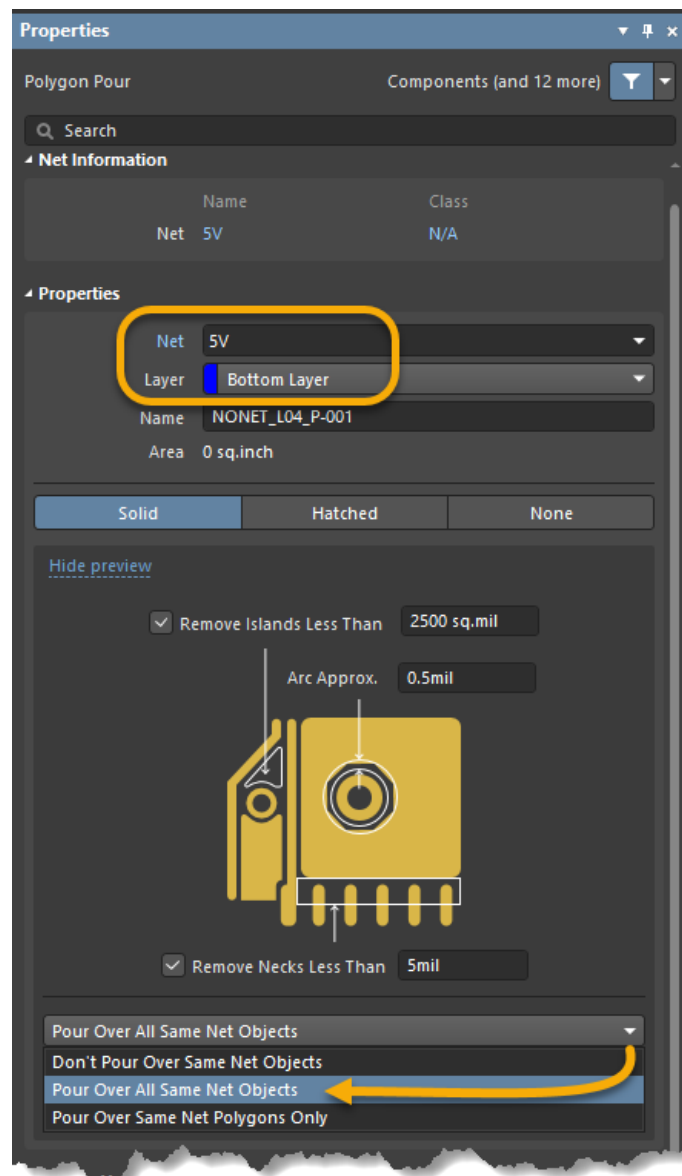

Figure 4. Polygon Pour dialog
19. Press the **Tab** key to pause the command and open the *Properties* panel to access the *Polygon Pour* dialog as shown in Figure 4.
21. Near the bottom of the panel, below the preview of the polygon, select **Pour Over All Same Net Objects** from the drop-down menu as shown in Figure 4.